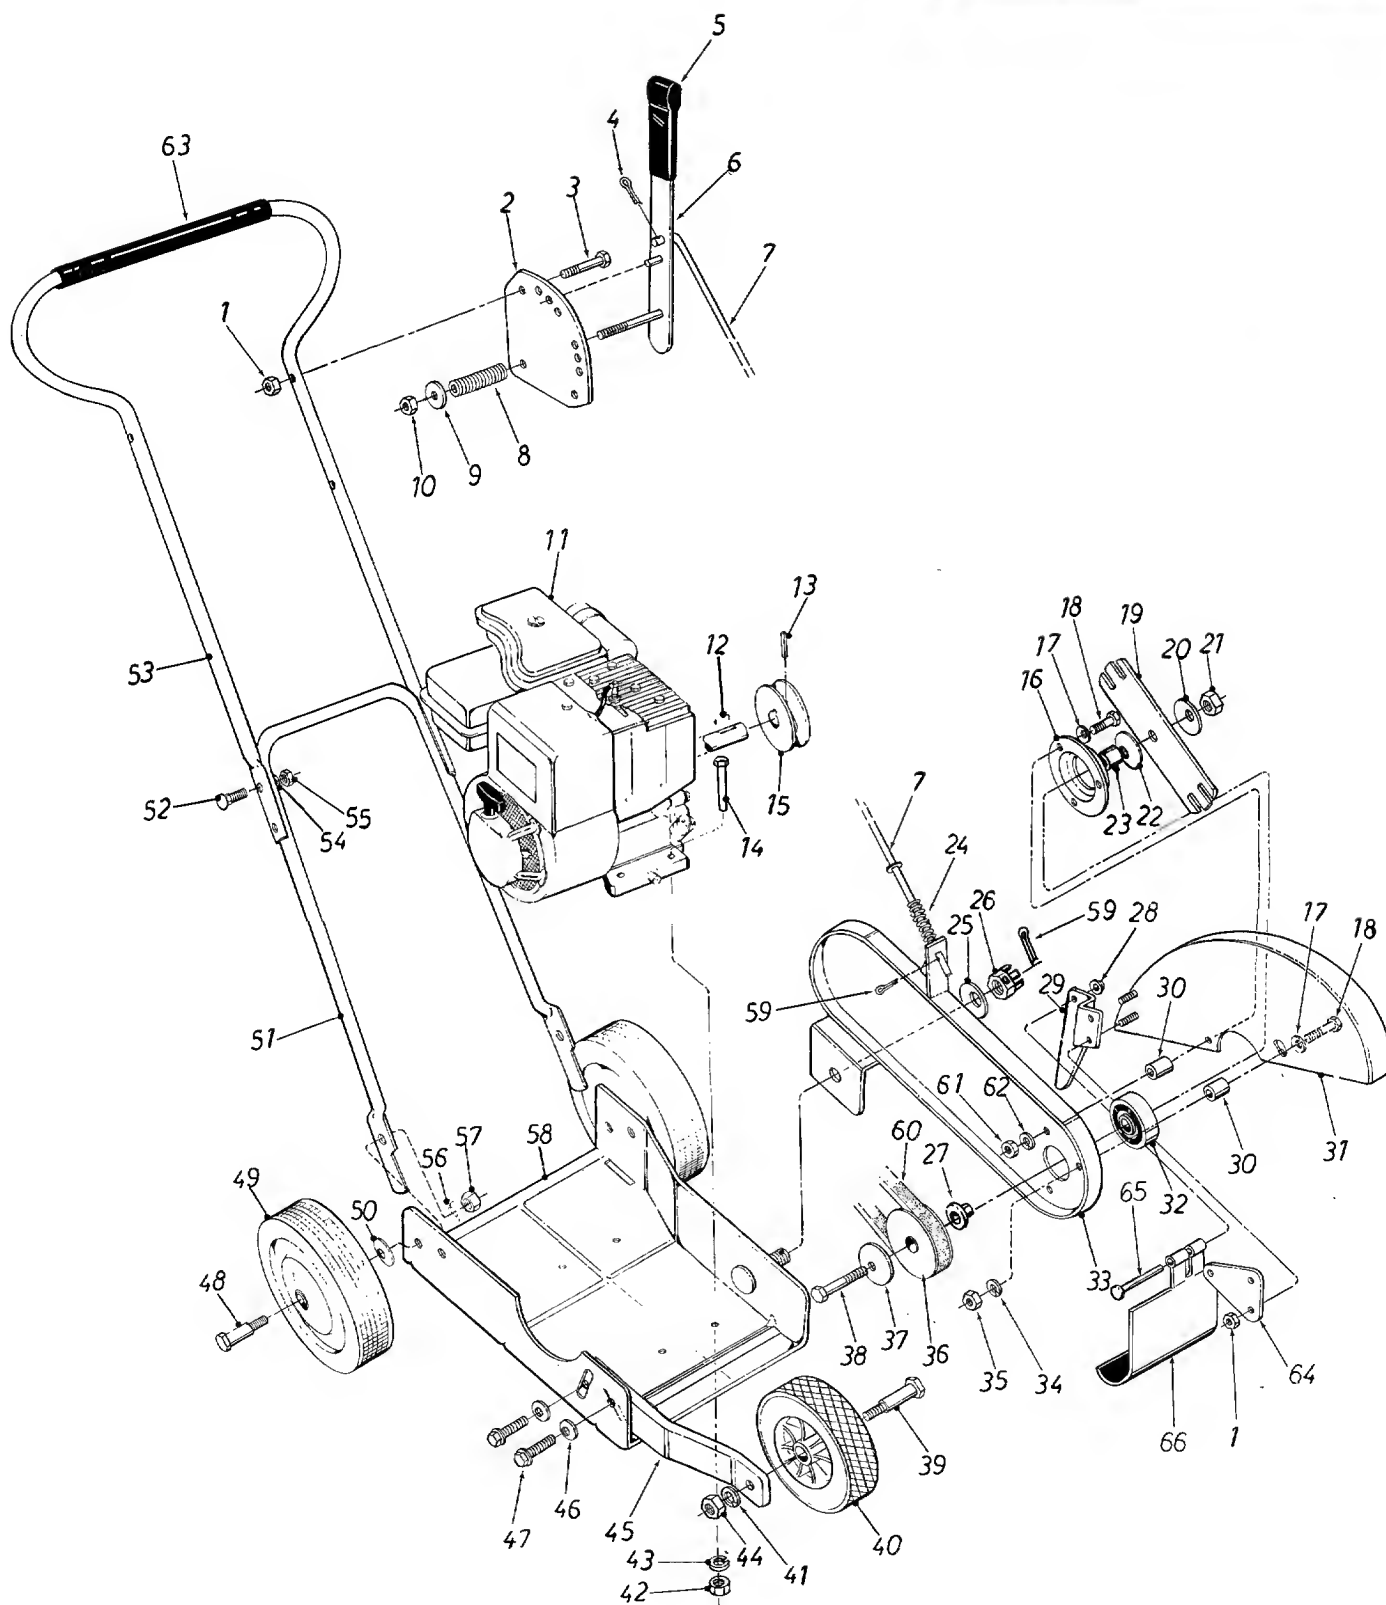

**FIGURE 15**
3. Lift off the hex castle nut, belleville washer and belt cover. See figure 15.
5. While the belt cover is removed it is a good idea to apply a little grease to the pivot point on belt cover. See figure 15.
7. When tightening the castle nut (DO NOT OVER TIGHTEN) only tighten enough to line up hole in bolt for cotter pin. Belt cover must pivot freely. See figure 15.